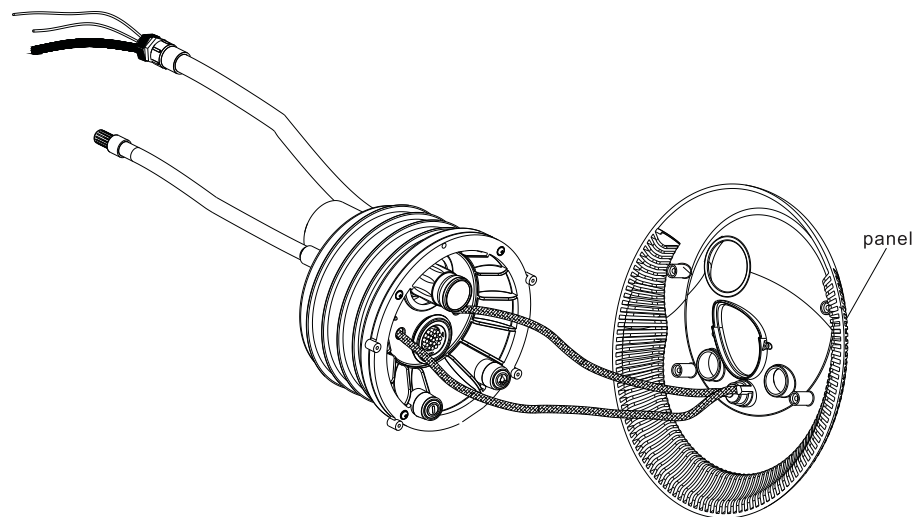

Figure 11
- 3) Connect the pipes of the shell to the side of the mask of the air button. Connect the gas nozzle of the support frame to the middle of the gas nozzle (Figure 11); (Note: must not be reversed)